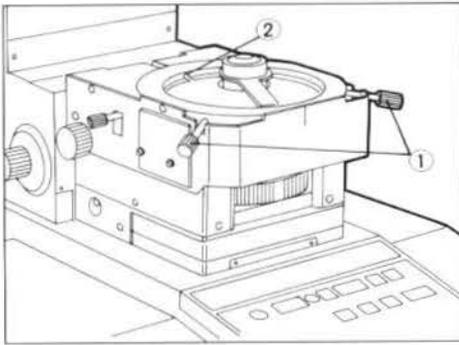

Fig. 5
1. Loosen the two centering screws ① but do not let them fall off. (Fig. 5)
2. Mount the stage in the stage bracket, making sure that the guide pin ③ aligns with the notch ② in the bracket. (Figs. 5, 6)
3. Tighten the centering screws ①, so that the stage does not come off. (Fig. 5)